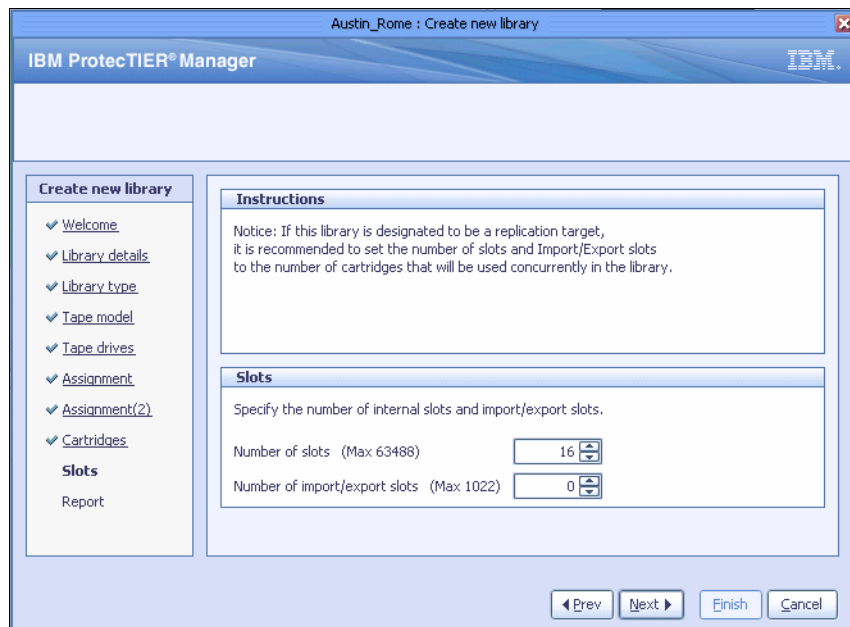

Figure 6-35 Slot configuration menu
7. We specify an equal number of slots and cartridges. We do not need any import or export slots, so we leave those numbers as 0 (Figure 6-35).